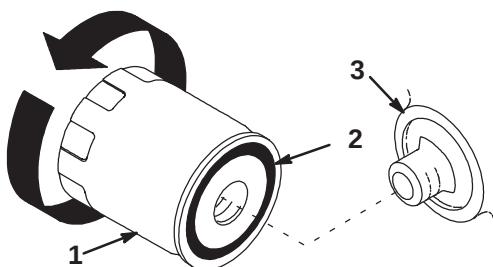

Figure 18
5. Change the oil filter, if necessary (Fig. 18).
- Remove the old filter and wipe the filter adapter (Fig. 18) gasket surface.
- Apply a thin coat of clean oil to the rubber gasket on the replacement filter (Fig. 18).
- Install the replacement oil filter to the filter adapter. Turn the oil filter clockwise until the rubber gasket contacts the filter adapter; then tighten the filter an additional 1/2 to 3/4 turn (Fig. 18).